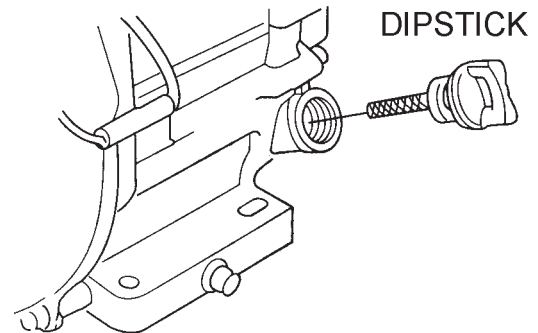

Figure 9. Engine Oil Dipstick Removal
2. Remove the dipstick from the engine oil filler hole (Figure 9) and wipe clean.